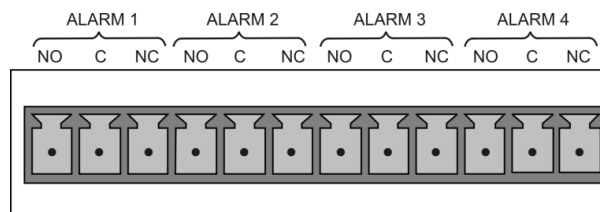

Figure 2-10. Concentration Alarm Relay
The concentration relay option provides four (4) “dry contact” relays on the rear panel (Figure 2-10), each with 3 pins: Common (C), Normally Open (NO), and Normally Closed (NC). The Relays can be mapped to reflect various internal instrument conditions and states. Configure these outputs through the Setup>Digital Outputs menu (Section 2.5.7) under MB Relay [1 thru 4].